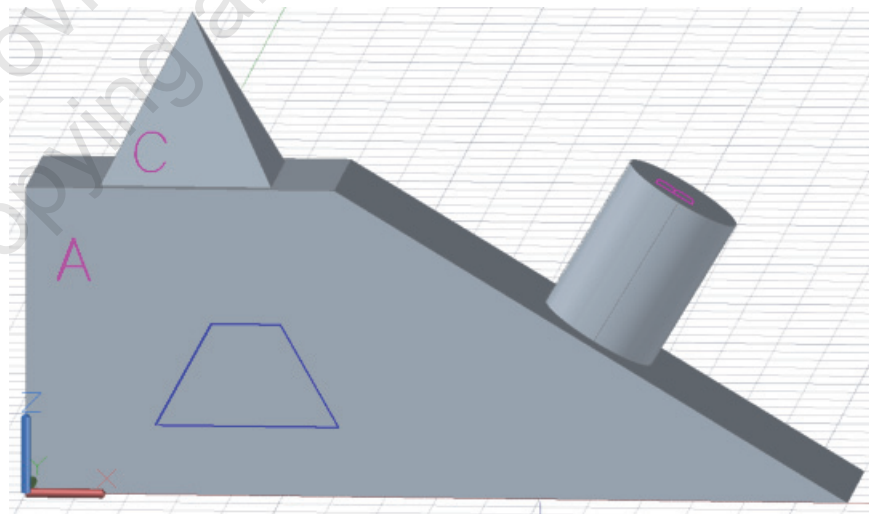

Figure 1–35
5. In the *Home* tab>*Draw* panel, click  (Line). Hover over Face A until it highlights and add several lines to the surface, similar to those shown in Figure 1–35.
6. In the *Home* tab>*Draw* panel, click  (Circle). Hover over Face B until it highlights. Draw a small circle anywhere on Face B, similar to that shown in Figure 1–36.